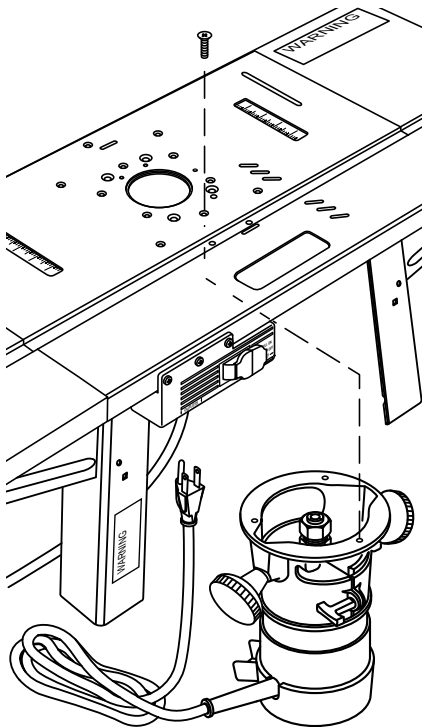

Figure 19
5. Insert router base plate screws previously removed through holes in table top and into router mounting holes. Tighten securely. See Figure 19.